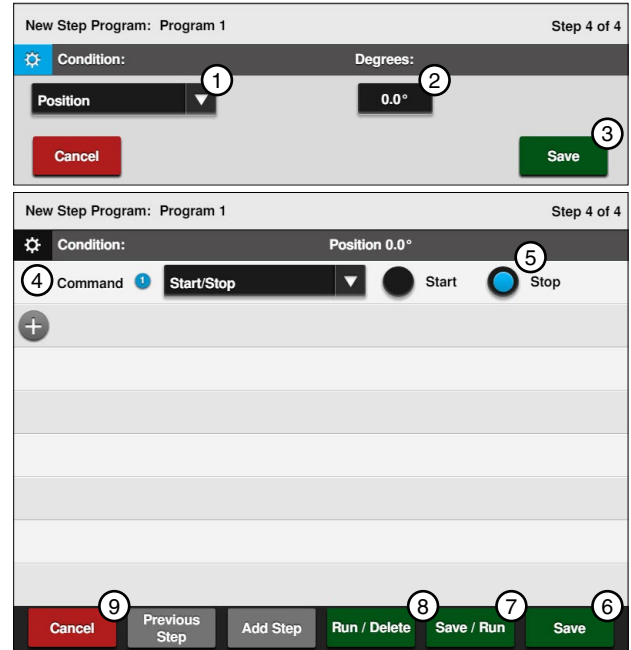

Figure 107-1
11. Program the position condition for this step. Refer to Figure 107-1.
12. Enter the command to be executed at this position. Refer to Figure 107-1.
13. Finish the program by selecting one of the following. Refer to Figure 107-1.